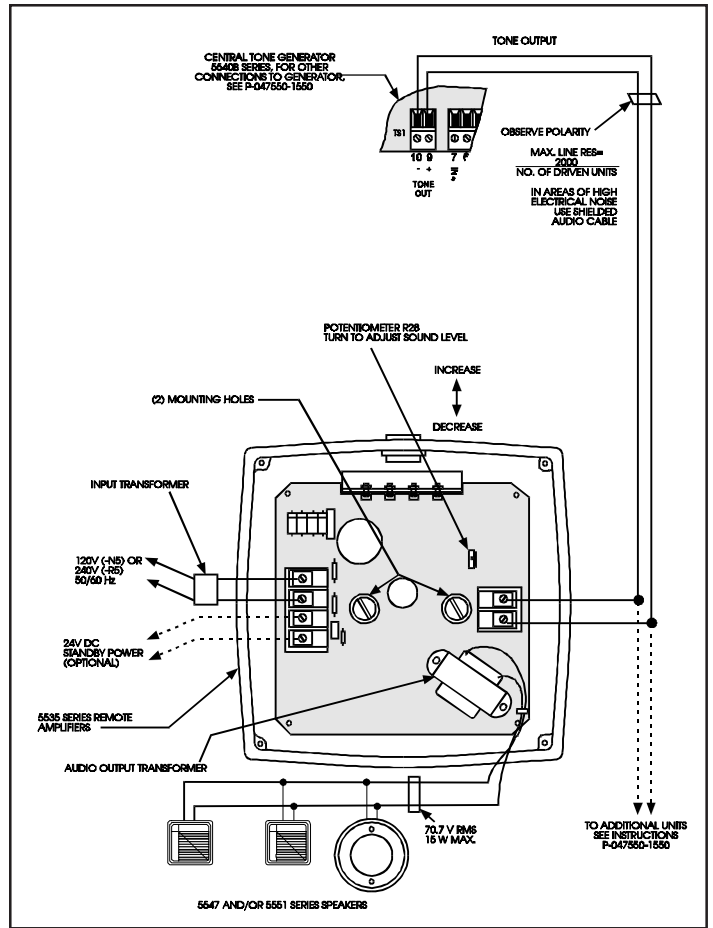

Figure 4. Remote Amplifier Wiring to Central Tone Generator (5540B Series Shown)
c. **Connecting 5535 Remote Amplifier(s) to a Series 5540 or 5540A Central Tone Generator** (Figure 4).
d. **Connecting 5535 Remote Amplifier(s) to a Series 5540B Central Tone Generator** (Figure 4).